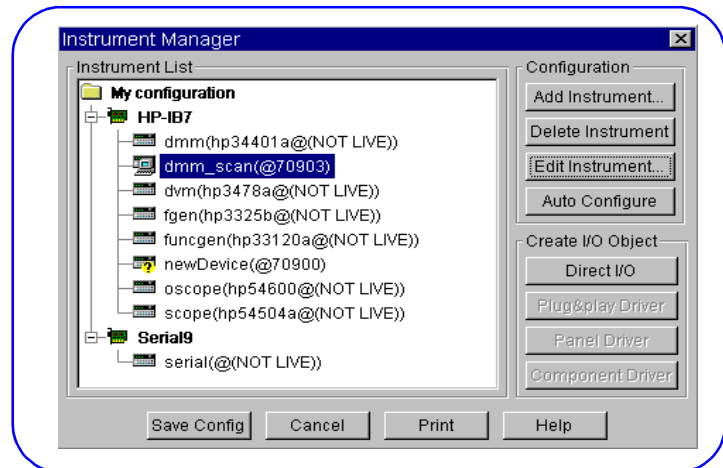

Figure 36. HP VEE Instrument Manager - Configuration
- 3 For an instrument at Logical Address 70903, highlight *newDevice2(@70903)*. Then, click *Edit Instrument* and set the instrument name to *dmm_scan* (see Figure 36).